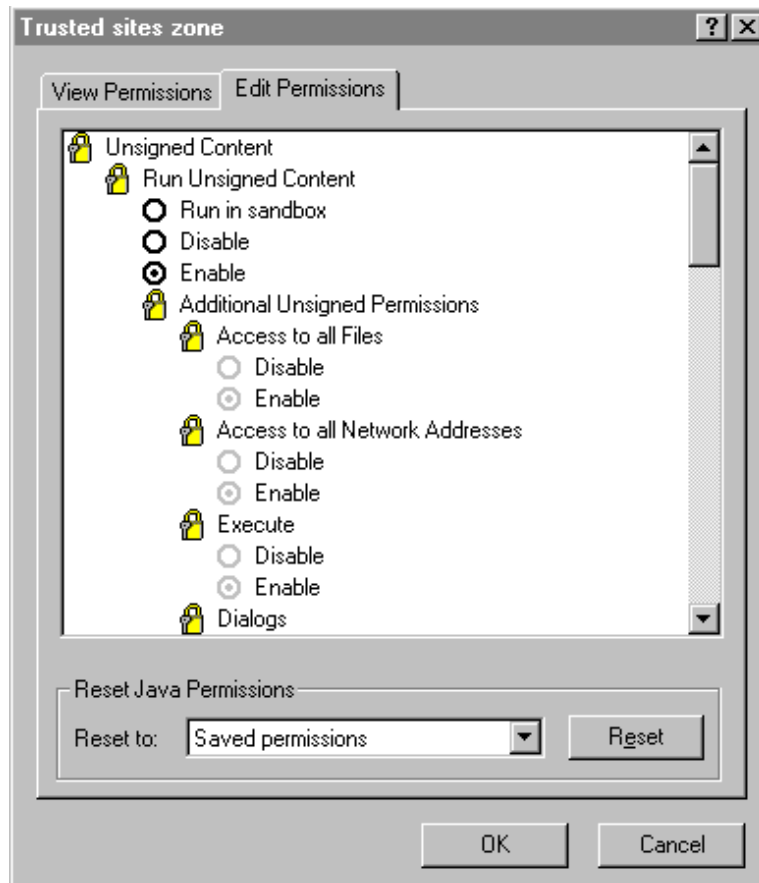

Figure A-13 Edit Permissions Dialog Box
- 4 The **Trusted sites zones** dialog box appears. See Figure A-13. Select the **Edit Permissions** tab.
If you are using Windows 95 and the options under Unsigned Content are unavailable, (Figure A-13) verify that you are using the latest version of Internet Explorer.